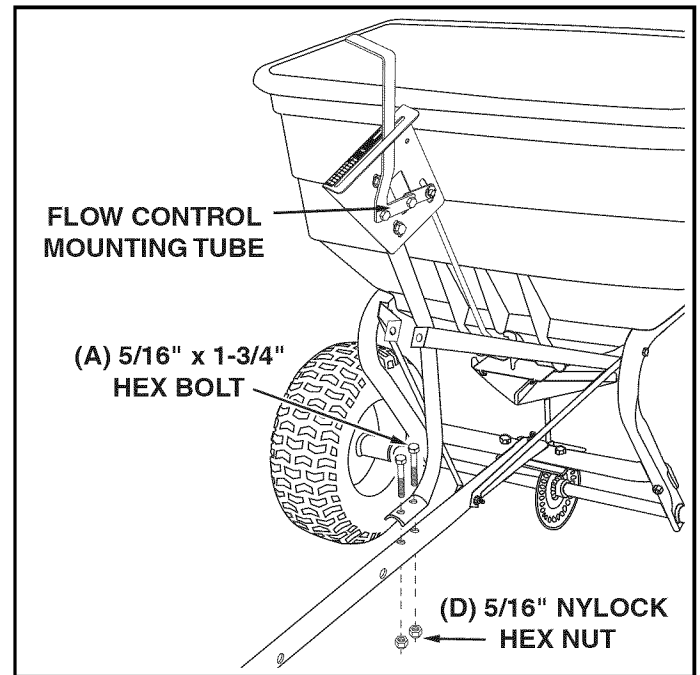

FIGURE 6
STEP 6: (SEE FIGURE 6)
8. Assemble the flow control mounting tube to the hitch tube using two 5/16" x 1-3/4" hex bolts (A) and 5/16" nylock hex nuts (D). **DO NOT TIGHTEN YET.**